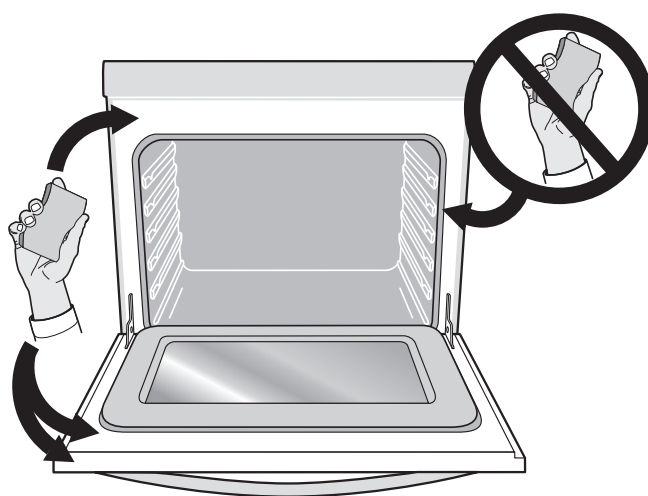

Figure 12: Areas to clean and to avoid
- Do not use oven cleaners or oven protective coatings in or around any part of the oven interior. Clean any soil from the oven frame, the inside oven gasket, including the area at the bottom center between gasket ends, and from the oven door (see Figure 12). These areas heat sufficiently to burn soil on. Clean using soap and water prior to starting Self Clean.